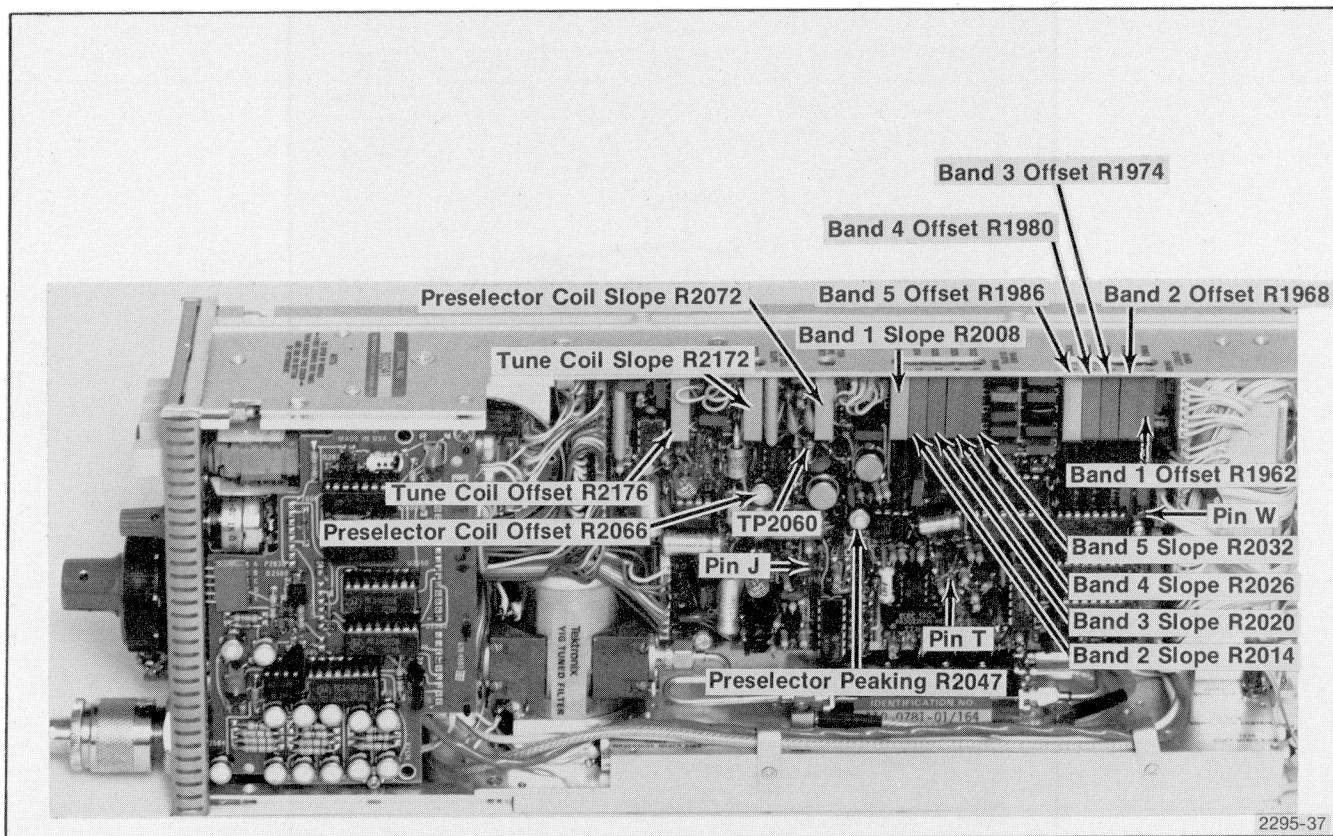

Fig. 4-29. Adjustments and Test Point Location on the 1st LO and Preselector Driver.
c. Adjust Tune Coil Slope R2172 (see Fig. 4-29) for 100 MHz markers per division. If using the Cal Out signal, adjust for 500 MHz per five divisions.
d. Using a DVM or a dc-coupled test oscilloscope, adjust RF Voltage (Adj R2352) on the Reference Voltage board (see Fig. 4-30) —10.0 volts between pin W and Tune Ref Gnd (pin J) on the Preselector Driver board (see Fig. 4-29).
e. Change the FREQ SPAN/DIV to 2 MHz and measure the voltage at pin T of the Preselector Driver board (see Fig. 4-29). Adjust CENTER FREQUENCY control for a reading of 0 volt (center frequency is not at the center of the band, or 2.490 GHz).
f. Adjust Tune Coil Offset R2176 (see Fig. 4-29) so the 2.5 GHz marker is on the far right graticule line. This is 10 MHz above center.
2. With the FREQ SPAN/DIV at 2 MHz and the CENTER FREQUENCY set for 0 V at pin T of the Preselector Driver (see Fig. 4-29), the display should contain both the 2.5 GHz calibrator signal and its lower image response.
3. Press and release DEGAUSS, then adjust Tune Coil Offset R2176 (see Fig. 4-29) to position the 2.5 GHz marker on the far right graticule line.